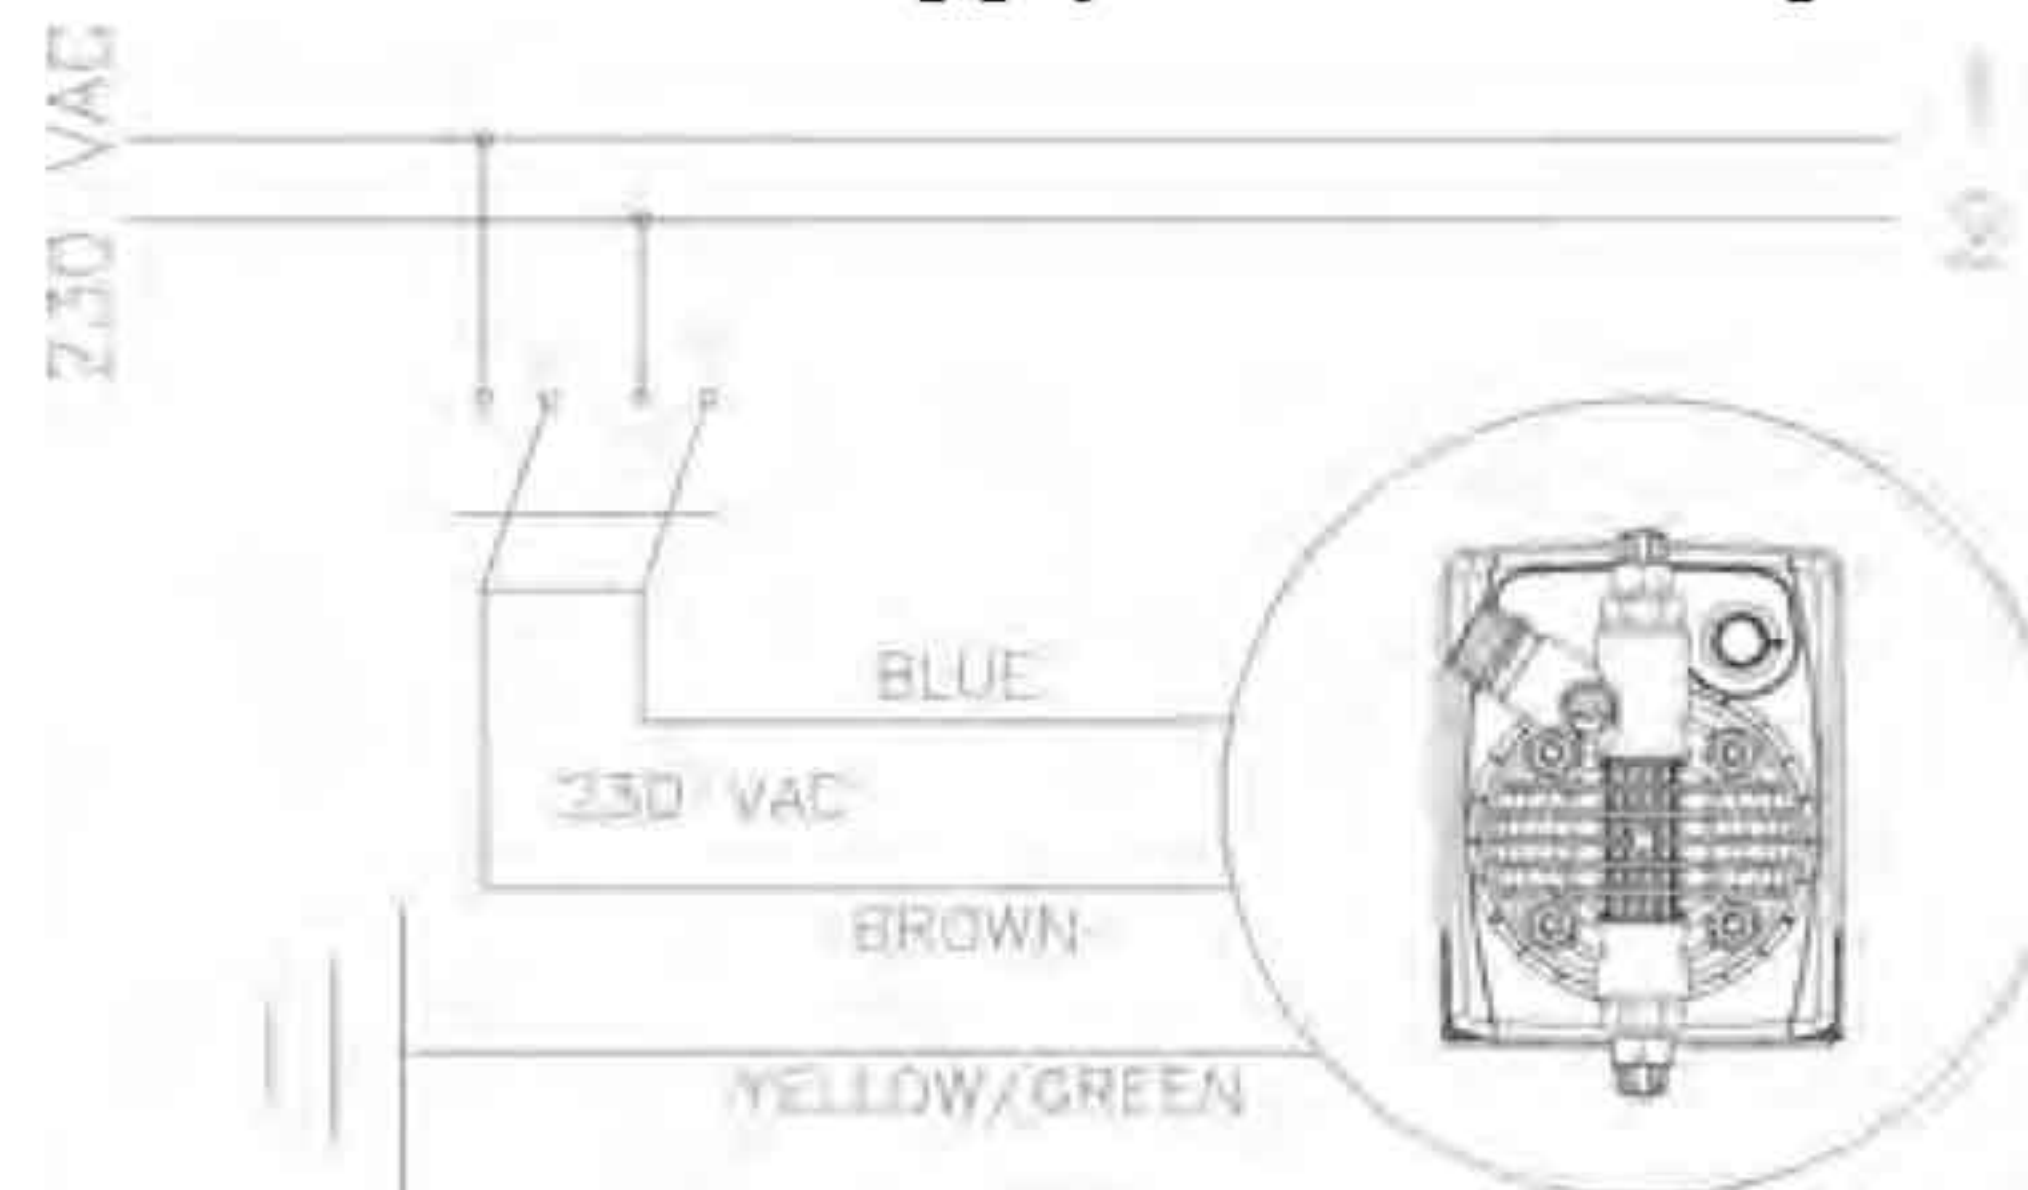

Fig. 4
1. **Disconnect the pins from the mains or by means of a two poles switch with 3 mm minimum distance between the contacts. (Fig. 4).**
1. Disconnect the pins from the mains or by means of a two poles switch with 3 mm minimum distance between the contacts. (Fig. 4).
- b. - Carefully observe the regulations in force in the various countries as regards electrical installations (Fig.4).